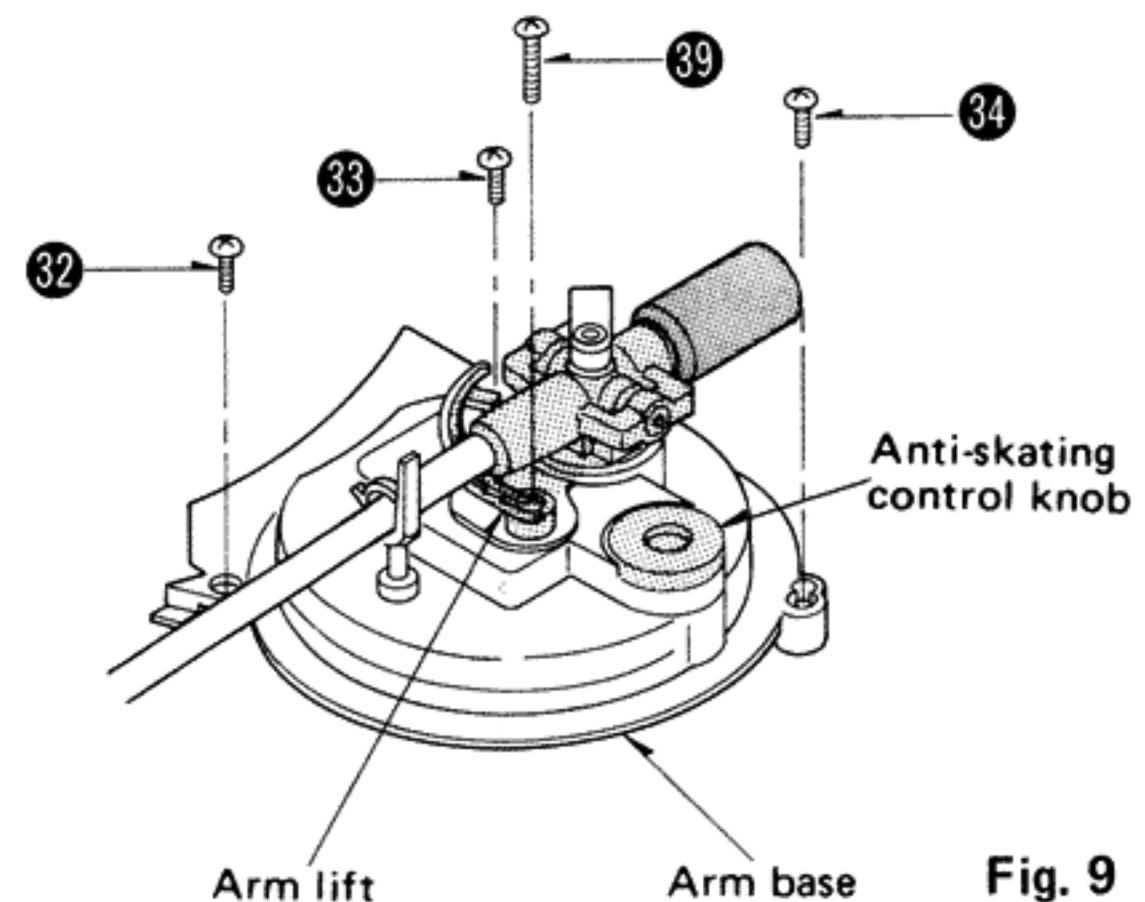
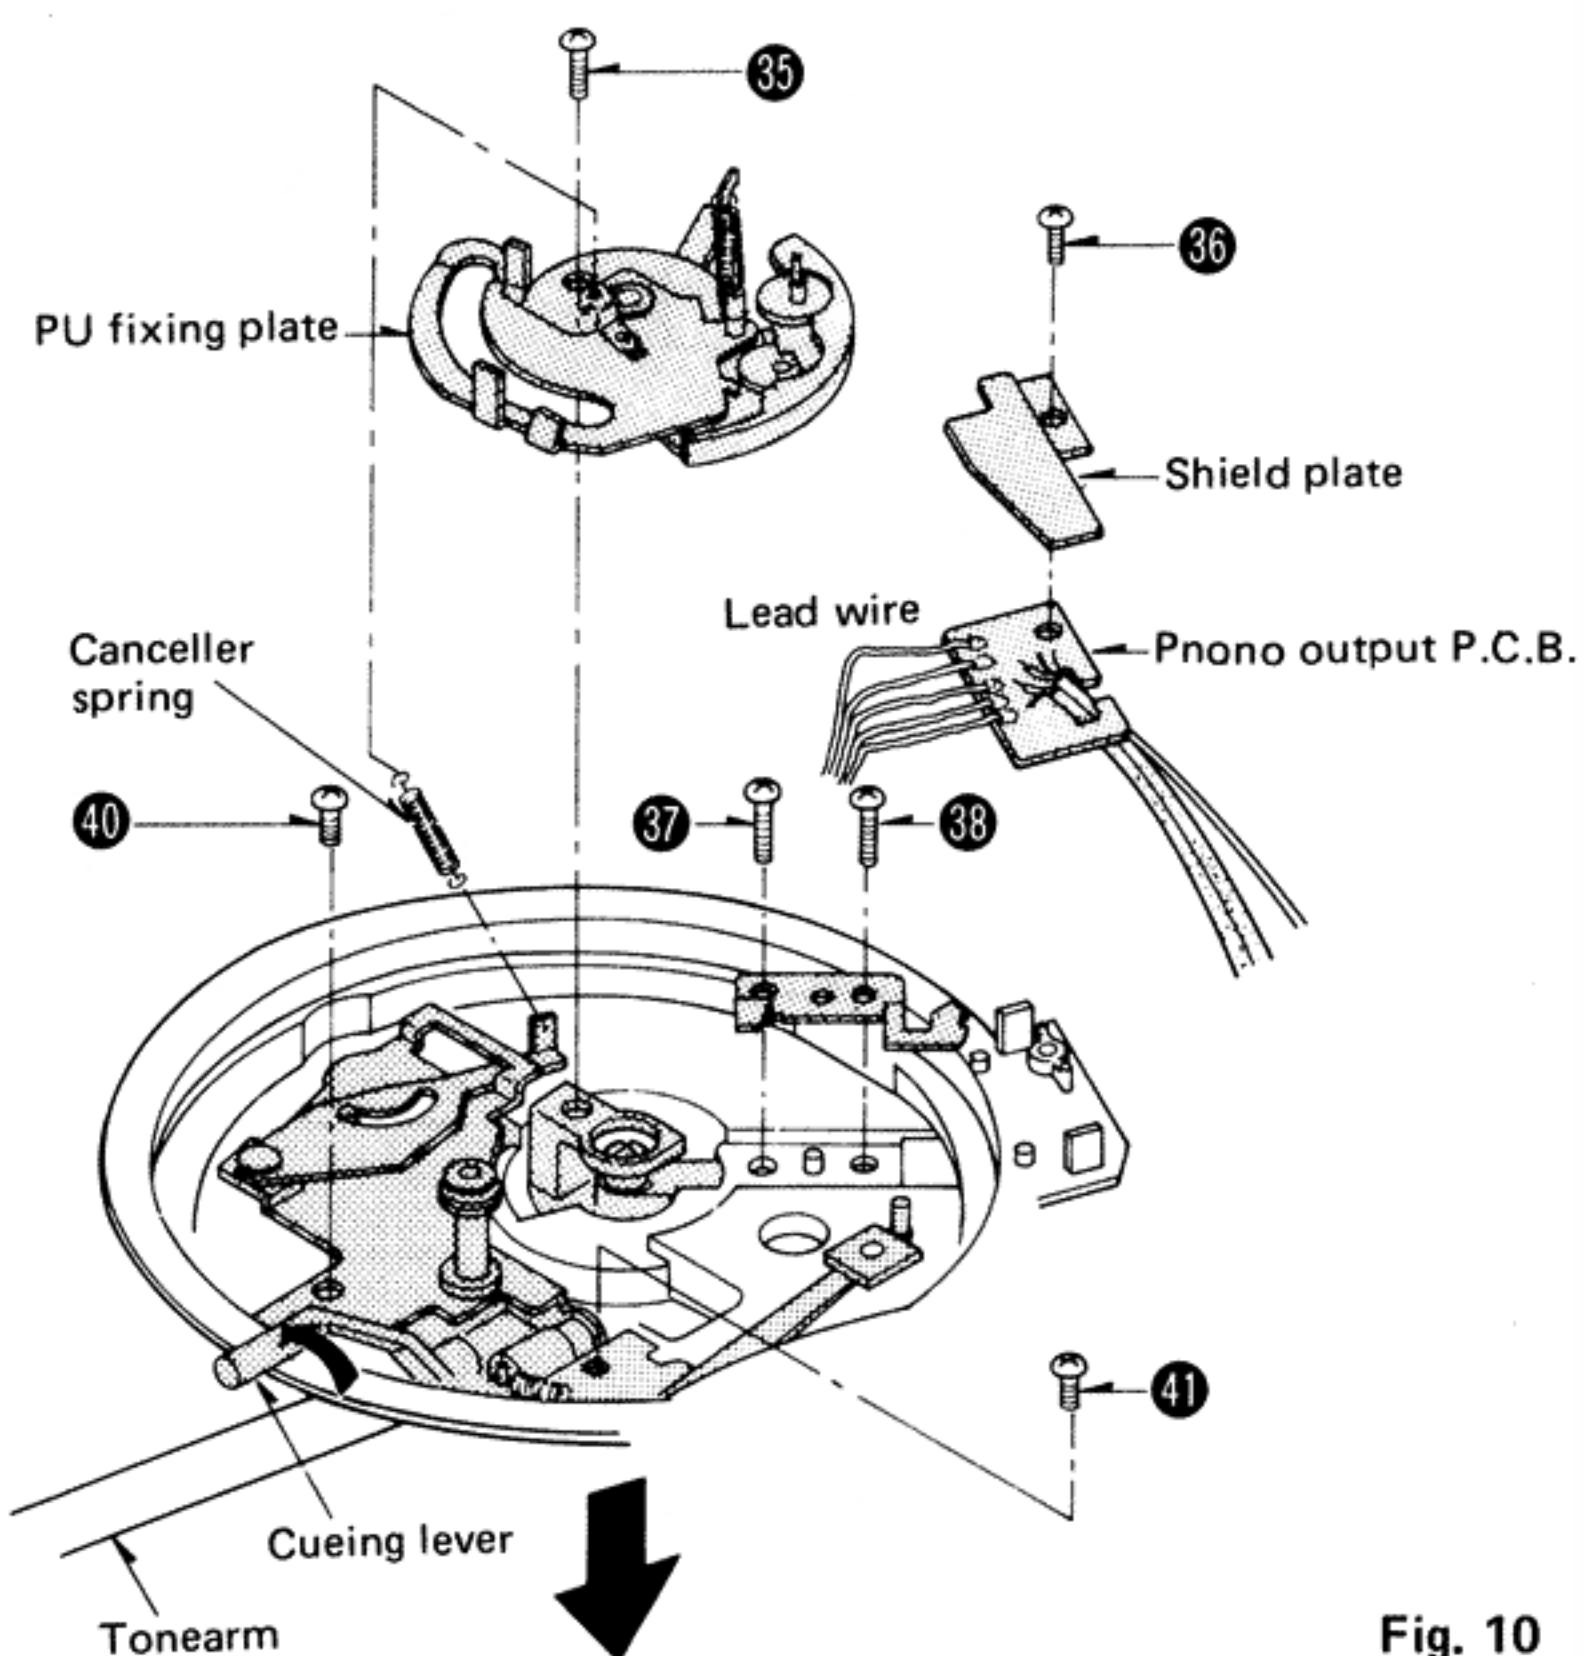

Fig. 9
Fig. 10
2. Remove the arm base setscrews ③② ~ ③④. Then, the arm base can be removed. (See Fig. 9)
3. When removing the tonearm, turn over the arm base and remove the PU fixing plate setscrew ③⑤ and canceller spring. (See Fig. 10)
4. Remove the phono output P.C.B. setscrew ③⑥ and unsolder the 5 lead wires from the tonearm. (See Fig. 10)
5. Remove the tonearm setscrews ③⑦ and ③⑧. Then, the tonearm can be removed in the direction of the arrow. (See Fig. 10)
6. When removing this lift base plate, remove the arm lift setscrew ③⑨ before turning over the arm base, and then remove the arm lift. (See Fig. 9)
7. Remove the anti-skating control knob. (See Fig. 9)
9. Remove the lift base plate setscrews ③⑩ and ③⑪. Then, the lift base plate can be removed.
10. Before mounting the arm base, make sure that the automatic mechanism is in the initial stage, and then shift the cueing lever of the arm base down in the direction of the arrow in order to make cueing-up. (See Fig. 10)